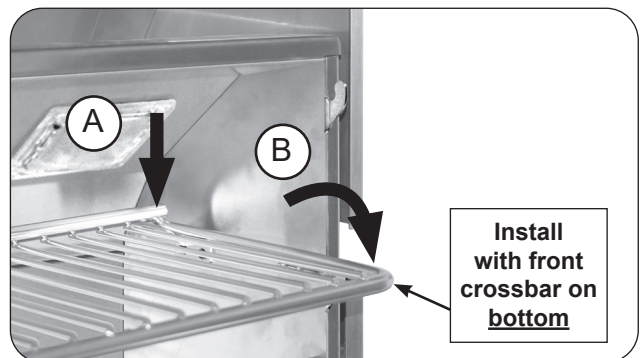

Fig. 21-2 Place warming rack for use
2. With the warming rack oriented as shown, carefully rest the rear of the rack onto the rear support plates (Fig. 21-2, A), then rest the warming rack arms onto the two lower hooks for use (Fig. 21-2, B). Repeat for the other warming rack.